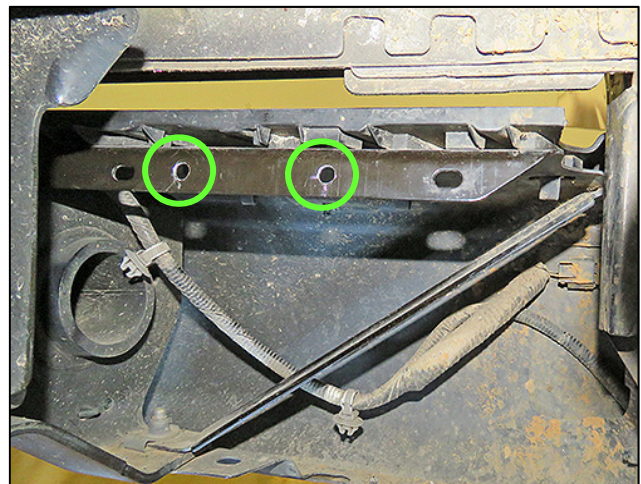

Figure 6
- Drill two (2) 8 mm (5/16") holes where marked in step 2, as shown in Figure 6.